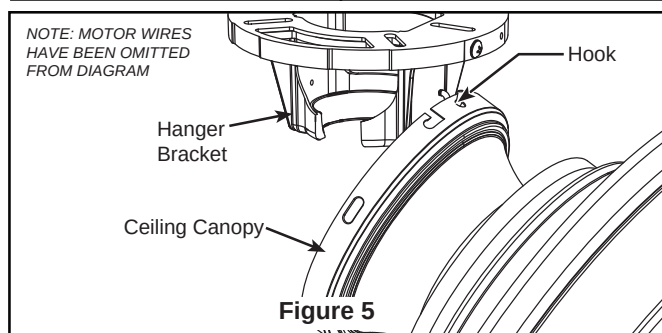

Figure 5
- ☐ 5. Reinstall the hanger ball on the downrod as follows. Route the wires through the hanger ball. Position the pin through the two holes in the downrod and align the hanger ball so the pin is captured in the groove in the top of the hanger ball. Pull the hanger ball up tight against the pin. Securely tighten the set screw in the hanger ball. A loose set screw could create fan wobble. (Figure 5)
Hook the motor assembly onto the ceiling bracket assembly as shown. (Figure 5)